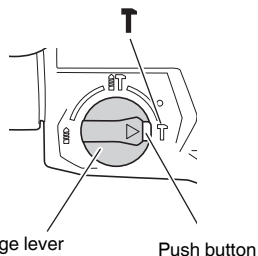

Fig. 11
This rotary hammer can be set to hammering only mode by pressing the push button and turning the change lever to the **T** mark (Fig. 11).
- Turn the change lever to **T** mark (Fig. 11). Then the tool is locked.